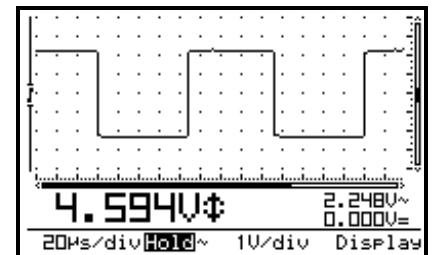

Fig 11
- A **dot grid** divides the screen into reference points. (Fig. 11)